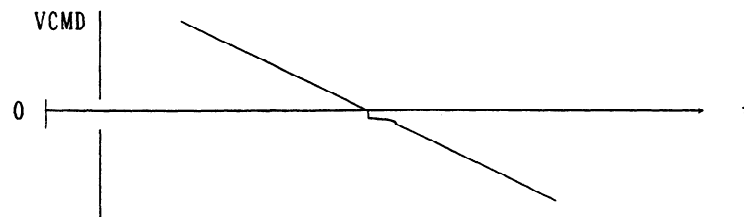

Fig. 2.5.2 (c) VCMD Waveform a
- (iii) If VCMD waveform is Fig. 2.5.2 (e) → (Step 3)-2.